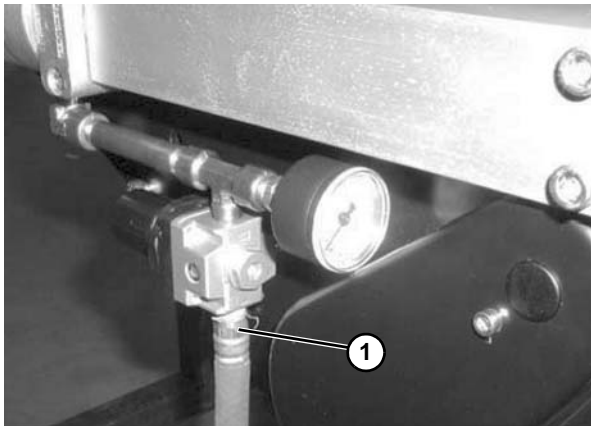

Figure 95
1. Remove air supply and remove hose (Figure 95, item 1) from the center drive.